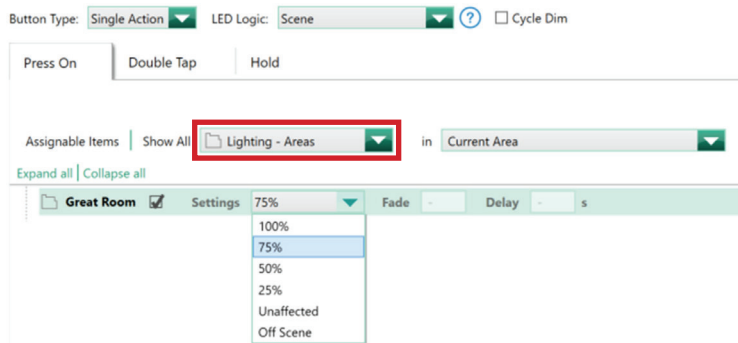

Figure 22
3. Area scenes can be programmed to any system trigger. In the Assignable Items drop down, navigate to Lighting - Areas and select one of the scenes created as shown in Figure 22 below.